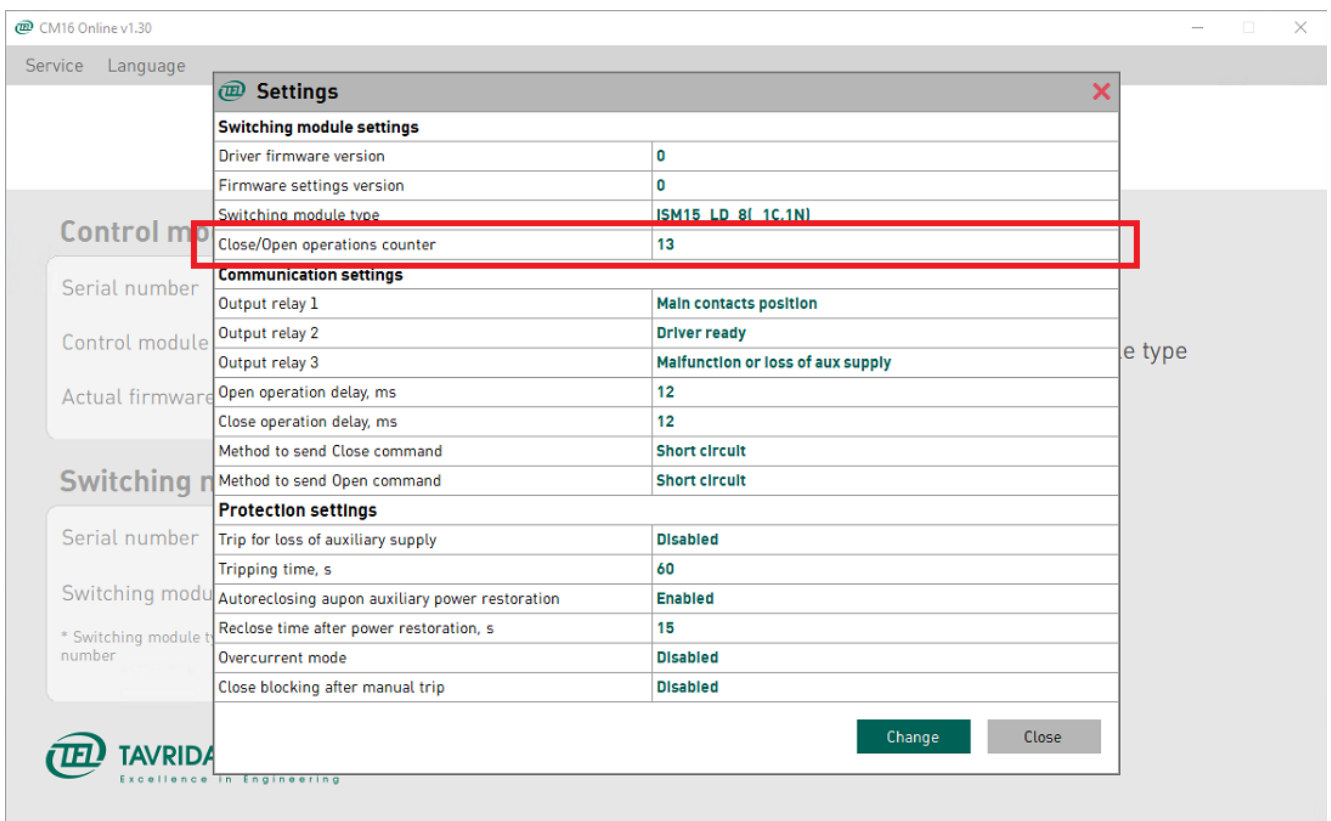

Figure 88
- 5) To apply test voltage single-core short cables should be used. Application of high voltage coaxial cables is strictly prohibited. To coordinate the surge impedance between the test set and ISM extra resistor as shown in the Figure 88 shall be used.